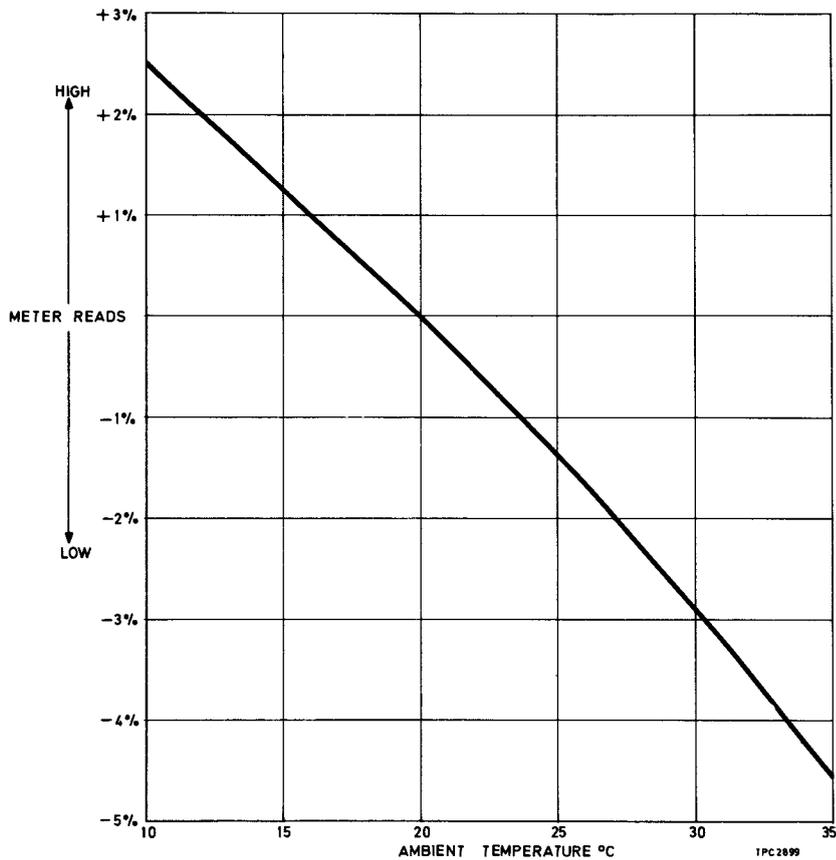

Fig. 3 Temperature correction chart
#### Temperature correction (Fig. 3)
10. Wattmeters of this type are calibrated in such a manner that optimum accuracy is obtained when the ambient temperature is  $20^{\circ}\text{C}$  ( $68^{\circ}\text{F}$ ). A typical temperature/accuracy chart, Fig. 3, may be used to obtain greater accuracy at other ambient temperatures. Protected power measurement will cause an air-temperature increase within the instrument, leading to long-term drift. All measurements should, therefore, be made as rapidly as possible. For greater accuracy time should be allowed between measurements for the meter to revert to ambient temperature, as described in para. 9.